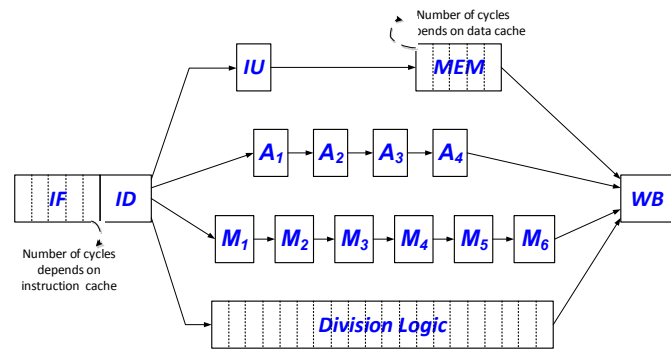

Figure 2: An example configuration for the execution stage
CPU: The MIPS computer employs a multi-stage pipeline processor in order to dynamically schedule instruction execution. There are generally four stages in the pipeline, namely, Instruction fetch (IF), instruction decoding and operand reading (ID), Execution (EX), and Write back (WB). The EX stage include both the ALU and data memory (MEM) access stages. There are four distinct ALU units for: one Integer arithmetic, one FP add/subtract, one FP multiplication, and one FP division. The integer unit (IU) always takes one cycle for the execution. The specification of whether the individual FP units are pipelined or not, as well as the latency of each unit are to be provided in an input file with the name “config.txt”. An example configuration is shown in Figure 2, where both the FP adder and multiplier are pipelined, tacking 4 and 6 cycles, respectively. The FP division is not pipelined and needs 20 cycles to complete. Note that the number of cycles for the instruction fetch (IF) and data access (MEM) stages depends on the cache performance, e.g. miss or hit. For load and store instructions, the address is calculated by IU before the data cache is accessed. Meanwhile for the integer instructions, e.g., DADD, the instruction will spend only 1 cycle MEM stage, before advancing WB stage.